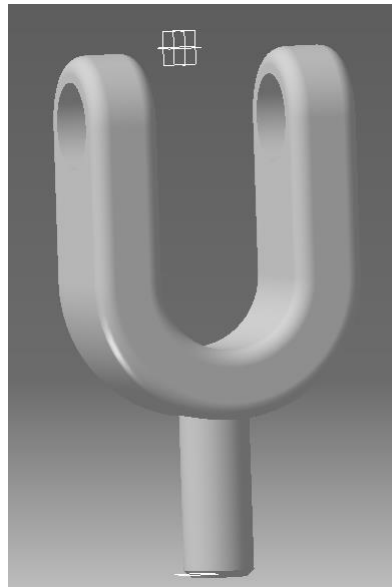

Figure 3.11
3.18 By using step 2.9 thru 2.23 then your can construct part, which will be like fig 3.11.
3.19 If your part looks similar the one shown in figure 3.11, you are ready to save your newly created CATPart. Save the part as Bottom U-Joint.CATOPart.